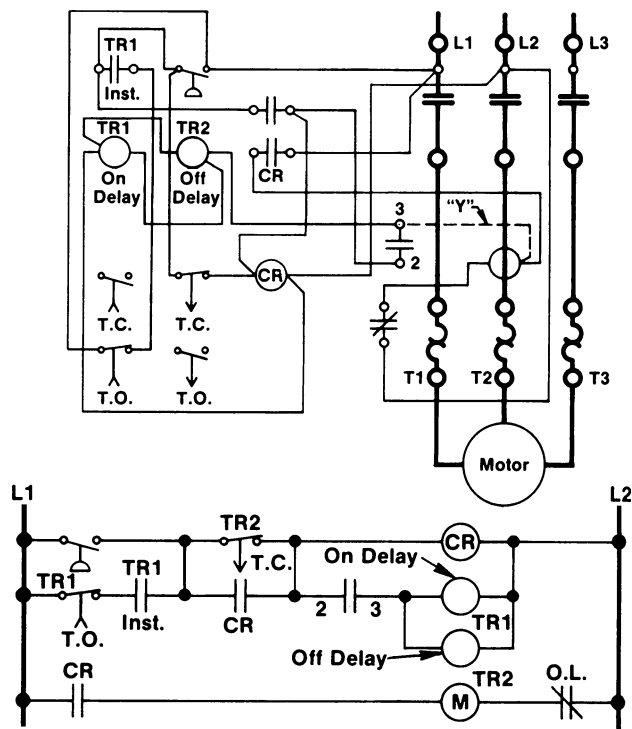

Fig. 15-25 Pump operation with surge protection on starting and stopping. (Allen-Bradley)
Figure 15-25 shows how the system provides protection on both starting and stopping. Backspin is included automatically. Two-timing relays are used here, one to provide surge protection on starting and one to provide surge protection on stopping and backspin protection. TR1 is an on-delay timer used for surge protection on starting. When the pressure switch contact closes, relay CR, the starter and two timers are energized. The instantaneous contact on TR1 closes, bypassing the pressure switch contact and preventing the pump motor starter from dropping out even though starting surges open the pressure contact. After the timing period, the time-delay contact TR1 opens the bypass and pressure switch (PS) can then stop the pump at the proper pressure. TR2 is an off-delay timer for surge protection on stopping and backspin protection. Once turned off the system cannot be operated again until timer TR2 has timed out and its normally closed contact is closed.